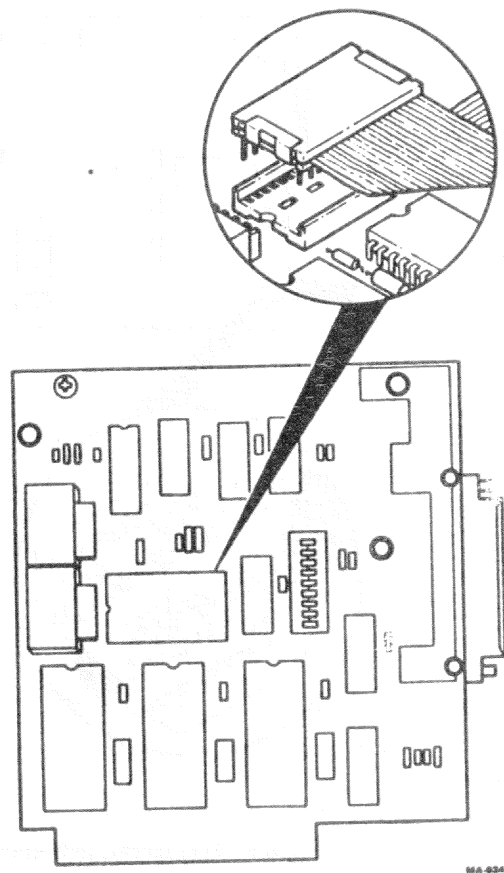

Figure 6-10 24-Pin Flat Cable on STP Board
14. Find the end of the 24-pin cable that has pin 1 on the cable side. Fold the cable under itself to the right approximately 30 mm (one in) from the connector. Install that end into the socket on the paddle board with the cable down (Figure 6-10).